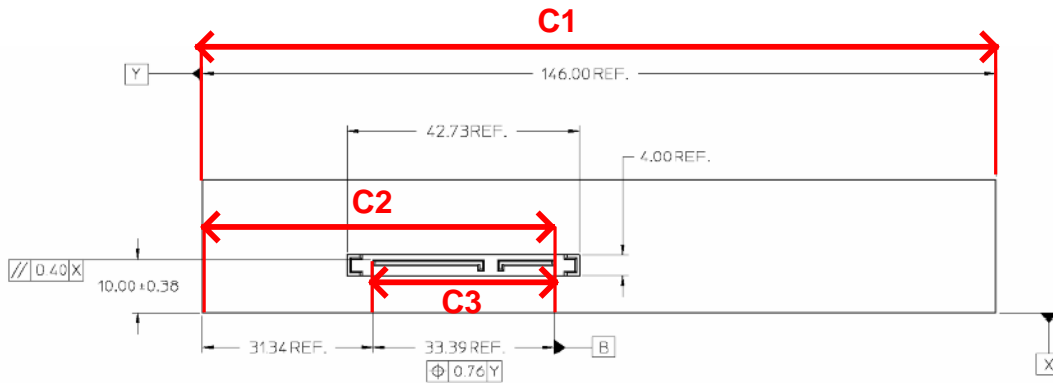

**Figure 1**
3. At the rightmost part of the plug (see Figure 1), measure the distance from the top of the tongue of the SATA plug to the bottom of the flat surface. Record this value as  $T+A1$ .
4. At the leftmost part of the plug (see Figure 1), measure the distance from the top of the tongue of the SATA plug to the bottom of the flat surface. Record this value as  $T+A2$ .